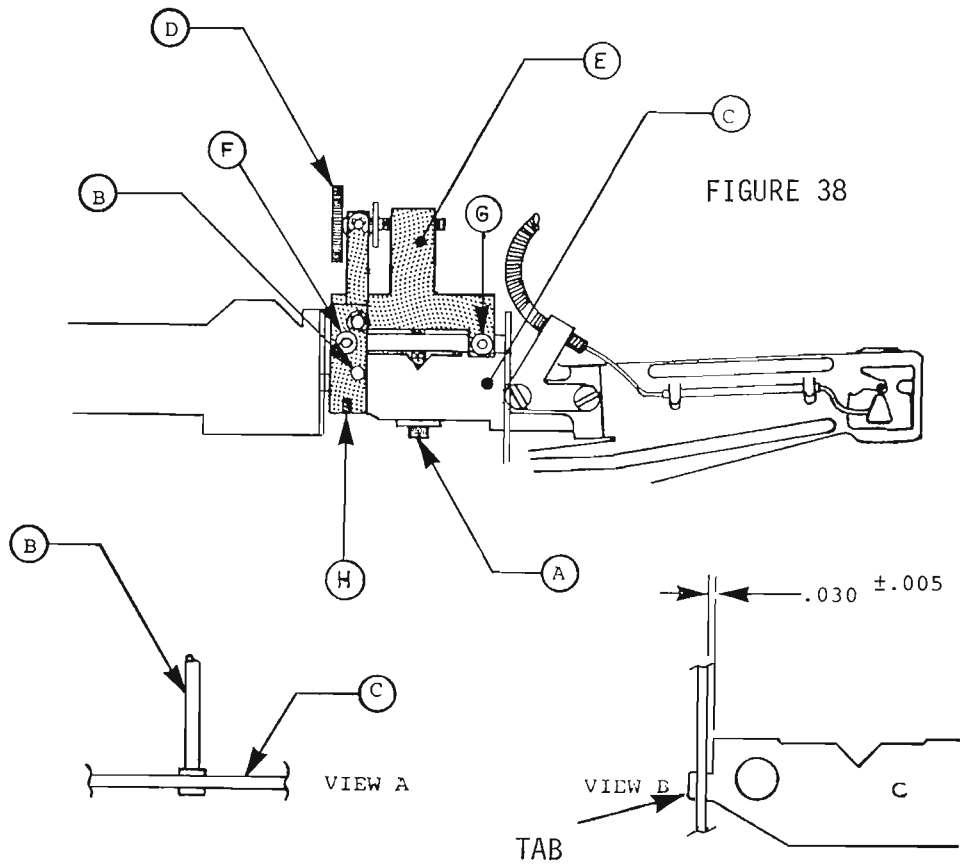

FIGURE 38
- (a) Loosen allen screw A ONLY 1/2 TURN. (Figure 38)
- (h) Install new head so that the tab on the end of the head mounting plate (C, Figure 38, view B) sits flush in the guide slot.
- (k) Tighten allen screw A on new head. (Figure 38)
- 11) Install head alignment tool E as shown in Figure 38 and tighten thumbscrews F and G onto head mounting plate C of head #02.
- 12) Turn knurled knob D in Figure 38 until the large end of pin B drops down through the hole in the mounting plate C of head #02.
- 31) Using a torque screwdriver, tighten screw A (Figure 38) to 65 inch-ounces. The signal may change after tightening screw A. Allow for this during adjustment.
- 33) Loosen set screw H. (Figure 38)
- 41) Remove head alignment tool E (Figure 38) and scope probes.